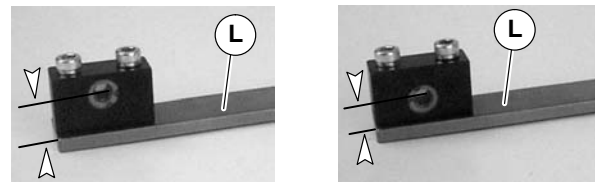

Figure 12
2. Check bearing support assembly (L of Figure 12) setup: 2100 (left) and 4100 or 6200 (right).